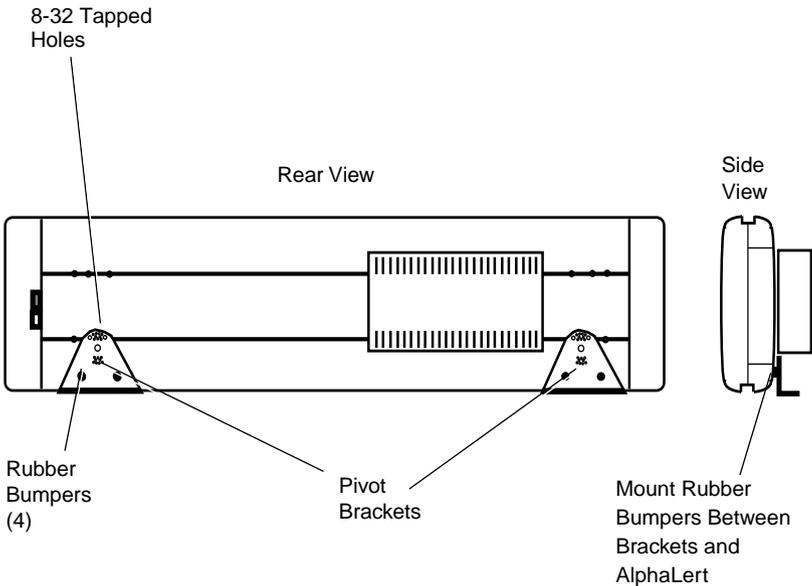

Figure 3-3. Large AlphaLert Sign Countertop Installation Diagram
1. Place two rubber bumpers on each of the two pivot brackets shown in Figure 3-3.